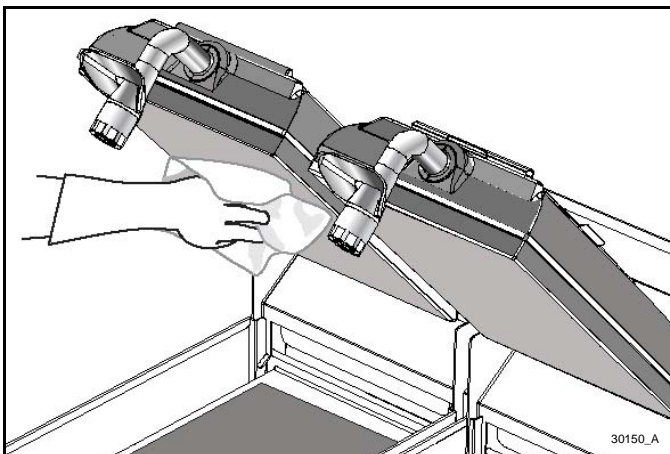

Figure-141
8. Wipe the exposed surface of the release sheets with a clean, sanitizer-soaked grill cloth. See Figure-141.